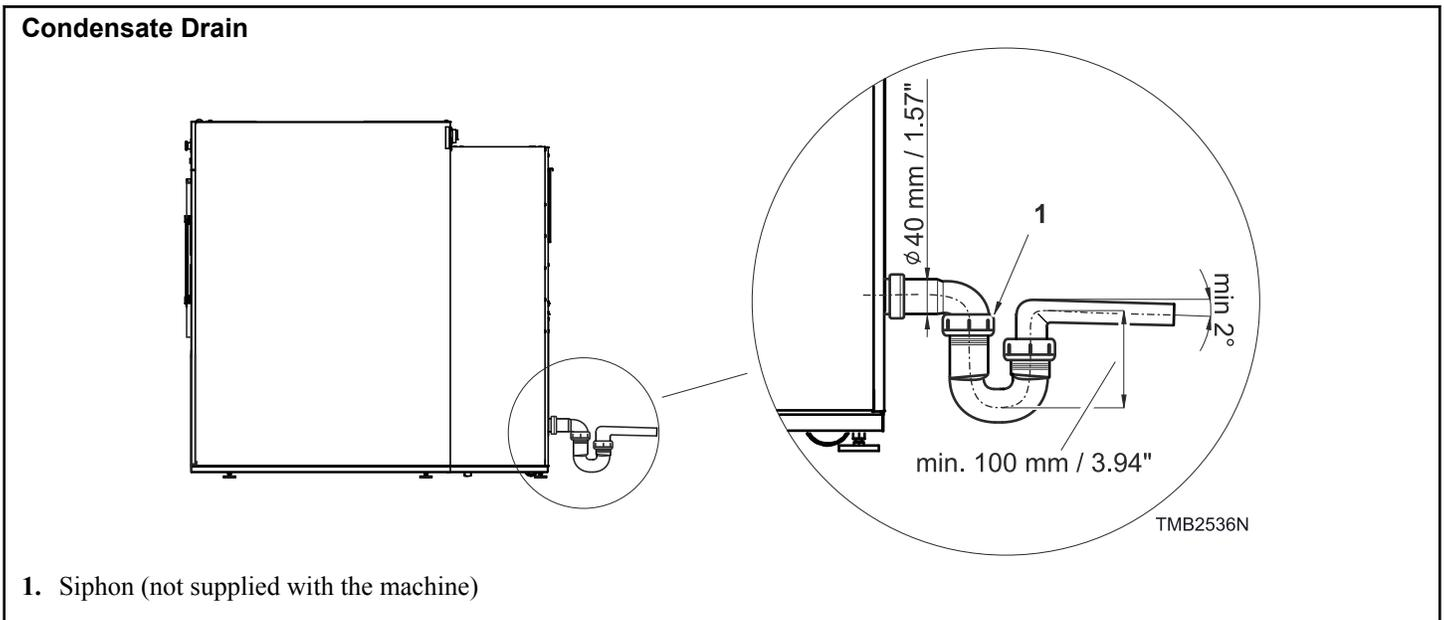

Figure 17
Condensate drain in the back of the dryer. Refer to *Figure 4*, pos. 9 and *Figure 6*, pos.11. For 9 kg / 20 lb / 195 L refer to *Figure 5*, pos.9. The dryer produces condensate which must be drained from the machine. Refer to *Figure 17*. The drain pipe must be designed in a manner ensuring that the condensate formed during the machine operation is sufficiently drained off. In case that a blockage or clogging of the condensate drain occurs, a risk of flooding the motor with condensate arises. (Not valid for 9 kg / 20 lb / 195 L)